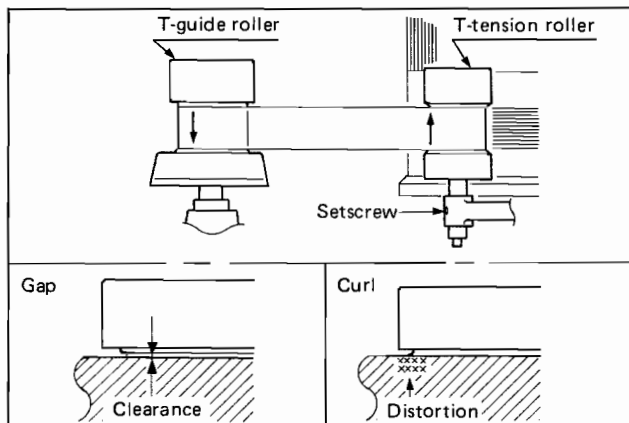

Fig. 5-16
2. Check at the lower flange of the T-guide roller that there are no clearance and curl. (Fig. 5-16)